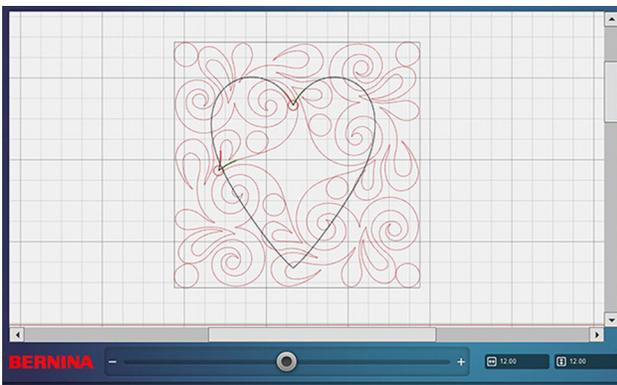

Fig. 18
6. Zoom in as needed to select the Heart design using your finger or mouse. The Heart design will turn black (Fig. 18).